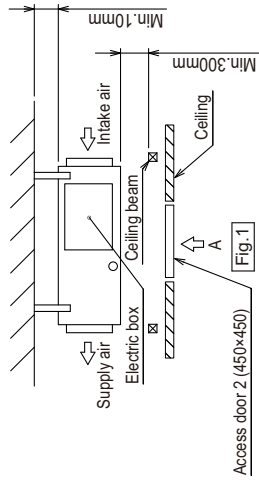

Fig.1
(1) When a space of 300mm or more is available below the unit between the unit and the ceiling. (Fig. 1)